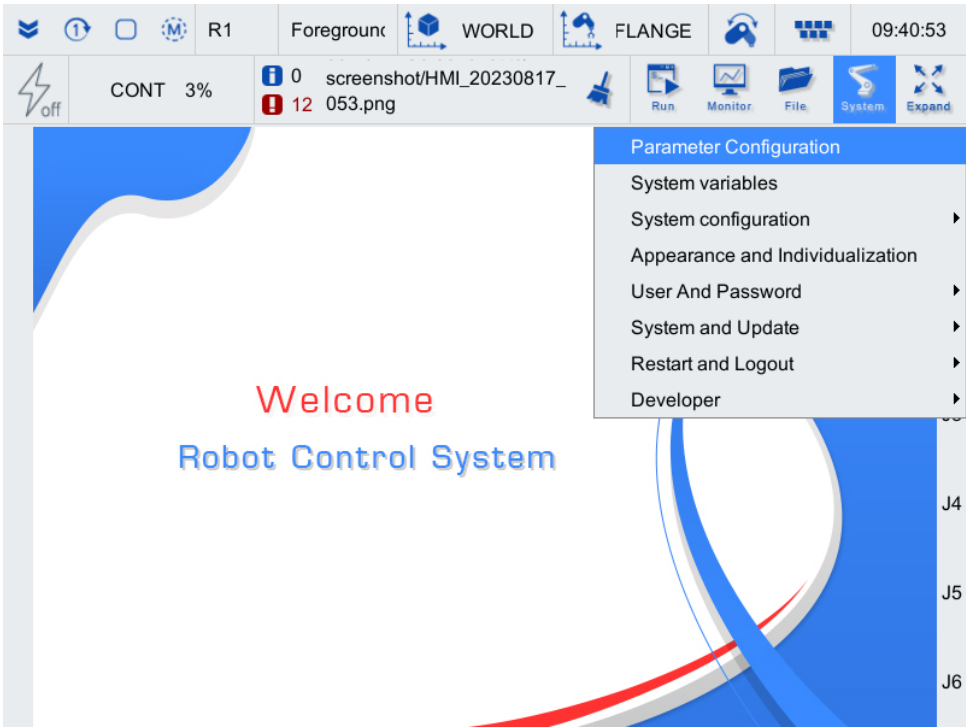

Figure 5-40 System related dropdown list
Step2. Click on [System/Parameter Configuration] in the upper right corner menu area, as shown in Figure 5-40.